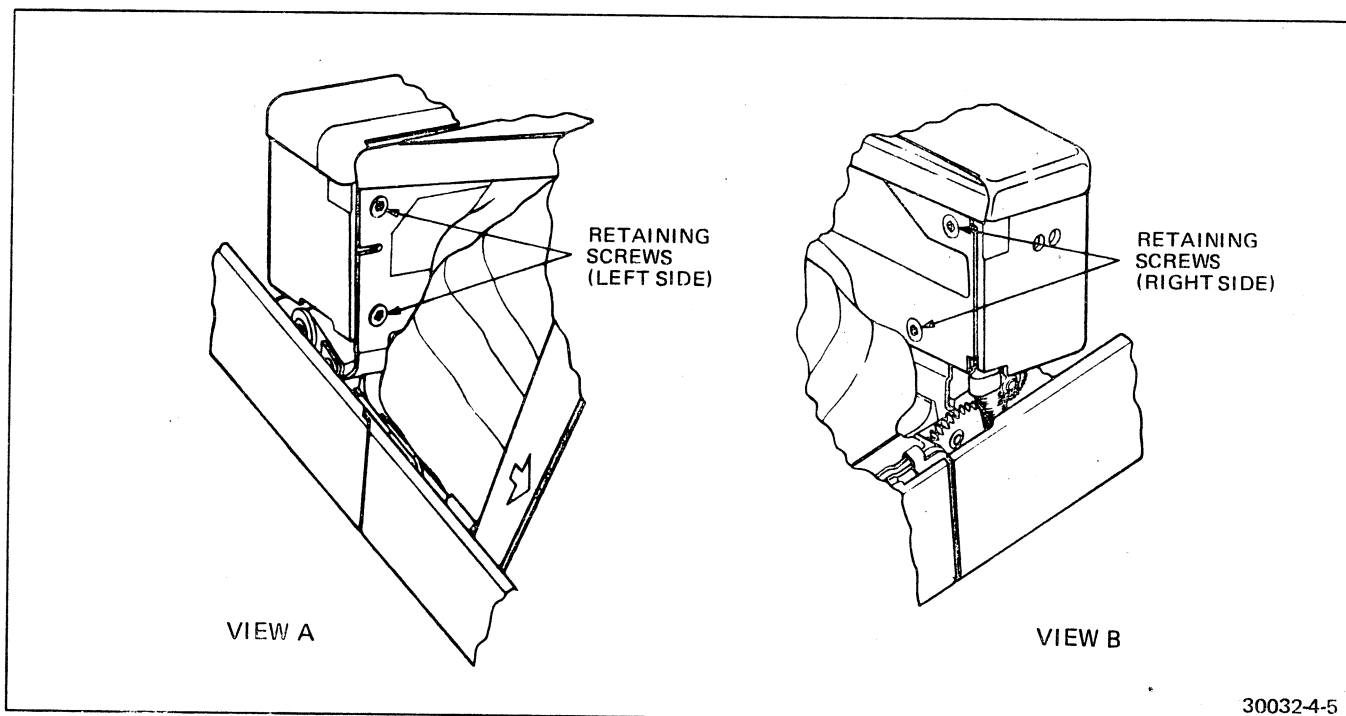

FIGURE 4-5 SHUTTER MOUNT RETAINING SCREWS
9. Remove the four shutter housing retaining screws from the rear of the shutter mounting hinge bracket (see Figure 4-5).